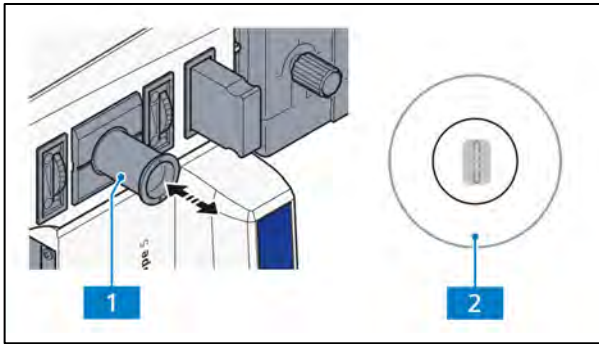
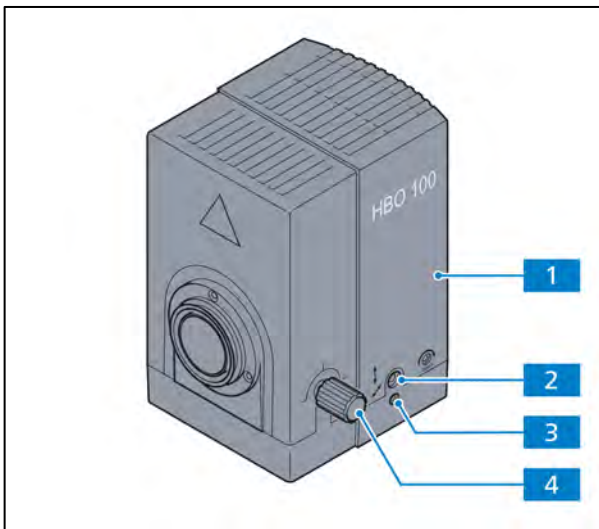

Fig. 3-35 Adjustment tool
Fig. 3-36 Adjusting the HBO 100
- Use the adjustment screws (Fig. 3-36/2 and 3) to focus the darker focal point (reflection) as you would for the focal point image (Fig. 3-35/2) in the inscribed adjustment circle.
- Turn on the HBO 100 illuminator (Fig. 3-36/1) on the power supply unit for the HBO 100 (Fig. 3-63/1) and wait until it reaches its operational temperature.
- Pull the adjustment tool (Fig. 3-35/1) out of the microscope stand. The lighter colored focal point of the lamp HBO 103 W/2 and its slightly darker reflection become visible in the black glass window of the adjustment tool.
- Use the knurled button (Fig. 3-36/4) for collector adjustment to focus the brighter focal point.